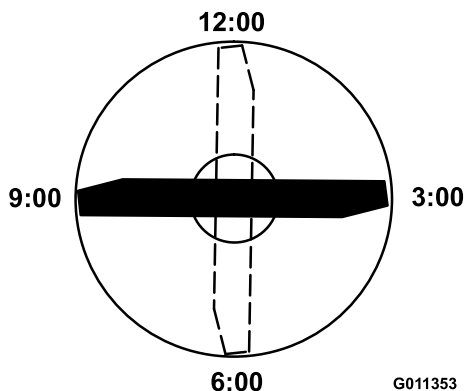

Figure 72
4. Position the cutting edge of the marked end of the blade at 12 o'clock (straight ahead in the direction of mowing) (Figure 72) and measure height from table to cutting edge of blade.
5. Rotate the marked end of the blade to the 3 and 9 o'clock positions (Figure 72) and measure the heights.